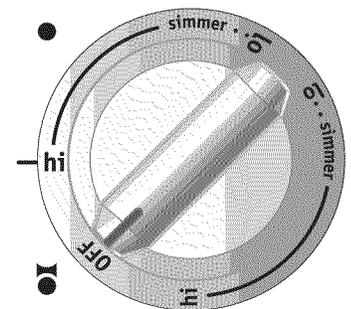
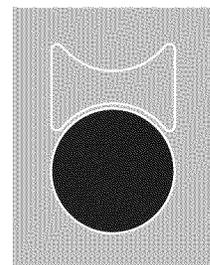

Figure 4
Figure 5
After using any of the element positions the cooktop will become very hot. Even after turning the control knob to OFF, the cooktop will remain hot for some time. The ESEC control monitors the temperature of the cooktop and displays the message "**HE**" (hot element) warning when the cooktop is still too hot to touch (See Fig. 5). If the **HE** message appears in the window, the control can still be turned ON again for use.
The cooktop is equipped with a "BRIDGE" surface element located at the left front and middle (See Figures 1 & 2) positions. The Bridge can be used when cooking with rectangular (like a griddle) or oval shaped cookware. The element will maintain an even temperature setting across both portions of the Bridge. If needed for normal cookware, the Bridge element can work like a single element without the Bridge (See Figure 5). The ● symbol indicates that only the front portion will heat (Fig. 3). The ◐ symbol indicates that both front and middle portions will heat (Fig. 4). You may switch from either coil setting at any time during cooking.
2. Push in and turn the control knob as shown in Figure 3 to heat the front portion of the Bridge element for normal shaped cookware or in Figure 4 for larger or rectangular shaped cookware.